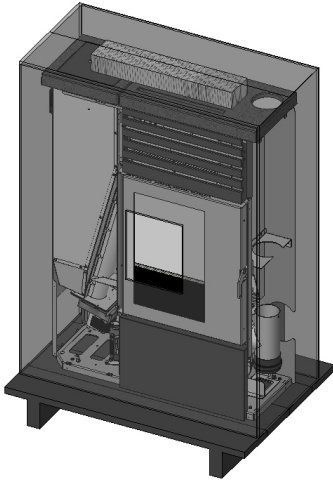

FIGURE 1 - STOVE PACKAGING (FRONT VIEW)
- The first contains the stove (fig. 1).